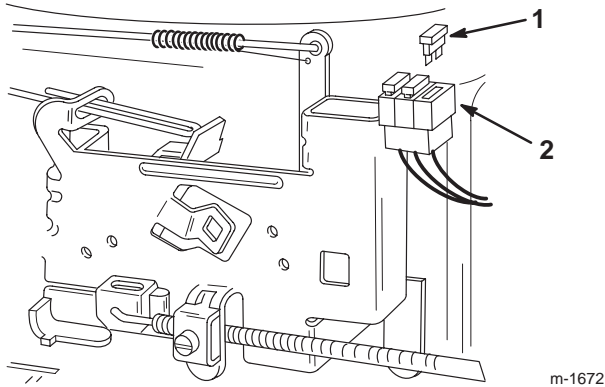

Figure 27
1. Pull up on the fuse (Fig. 27) to remove it from the socket.